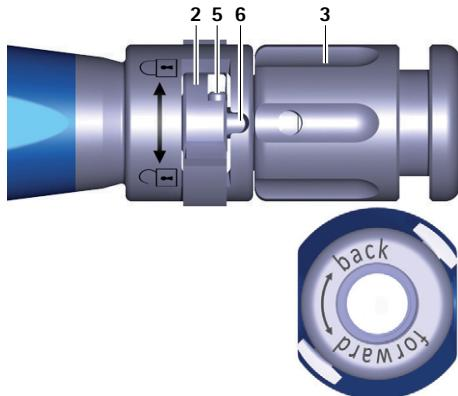

Fig. 1 Close-up view of the insertion instrument, switch open
- ▶ Turn the rotary nut **3** on the insertion instrument **A** counterclockwise ("forward" direction) to push the rod **6** forward, see Fig. 1.
- ▶ Turn the switch 2 to the left (\leftarrow direction), see Fig. 1.
- ▶ Turn the switch **2** to the left (R° direction), see Fig. 1.
- ▶ Check the position for coupling the insertion instrument A, see Fig. 1.
- ▶ Turn the switch 2 to the left (↖ direction), see Fig. 1.
- ▶ Turn the rotary nut 3 counterclockwise ("forward" direction) to push the rod 6 forward, see Fig. 1.